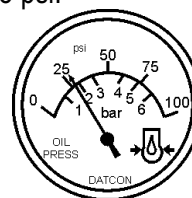

Figure 34. Oil Pressure Gauge
14. The engine oil pressure gauge (Figure 34) will indicate the oil pressure (kg/ cm²) of the engine. Under normal operating conditions the oil pressure should be approximately 25 psi.